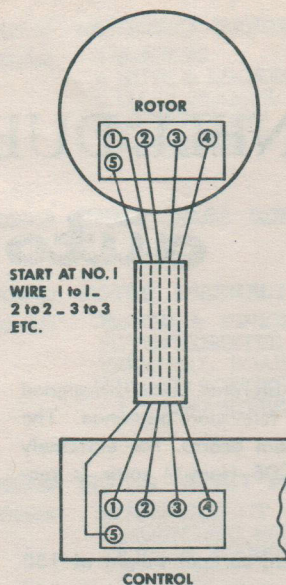

FIGURE 1
2. Measure out the amount of five-wire control cable required for your particular installation. At each end of this cable separate into individual wires approximately two inches from the end. Strip the insulation off each wire so that 1/4 to 3/8 inch of bare wire is exposed. Note: One wire may be silver colored and the other four copper colored. Use this silver colored wire for number one (1) lead. Twist the bared ends tightly and lightly tin these with solder to prevent unravelling of single strands. Do not tin up to insulation as this will hinder identification of the number one (1), silver colored wire.
3. It is recommended that the unit be "bench tested" prior to installation. Connect the rotor and control box in accordance with Figure 1 using the full length of cable prepared in step two (2). Care must be exercised to prevent short circuits between cable pairs.
**GENERAL**—The lower mast support casting is shipped unmounted; feed the cable through the rubber grommet in the terminal cover plate. Connect as shown in Figure 1. Then mount the lower mast support casting to the rotor base with four hex head bolts and lockwashers, tighten them securely.